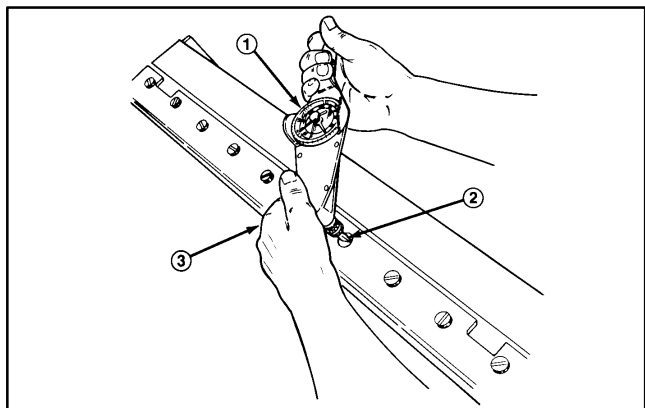

Figure 18
3. Use a torque wrench and special bedknife screw tool to complete tightening of the screws (Fig. 18). Tighten the screws to a torque of 250 in.-lb (28 Kgm) beginning with the center screw and tightening alternate screws toward each end to insure the bedknife will be flat against the bedbar.